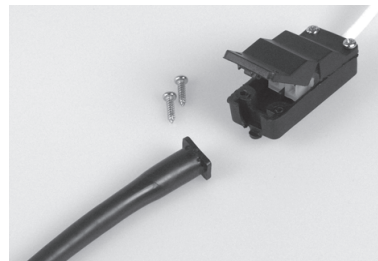

Fig 2
3. Open the connection box of the downlight (Fig 2).